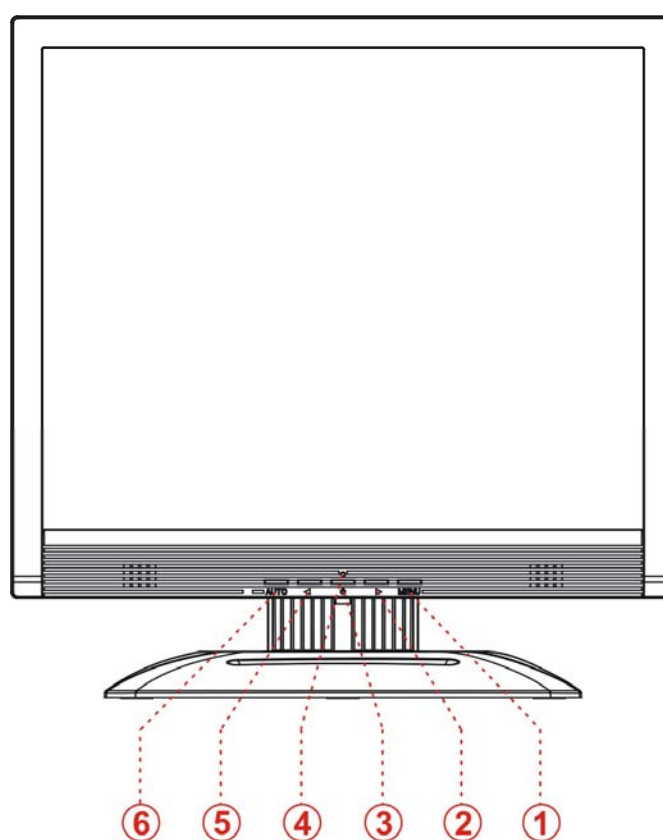

Figure.4. External Control Button
Press the power button to turn the monitor on or off. The other control buttons are located at front panel of the monitor (See Figure 4). By changing these settings, the picture can be adjusted to your personal preferences.
<p>The diagram shows the 'BRIGHTNESS CONTRAST' OSD menu. At the top, it has a title bar 'BRIGHTNESS CONTRAST' and a toolbar with icons for brightness, contrast, RGB, image, menu, and a red 'R' button, followed by an 'Exit' button. The main area contains two menu items: 'BRIGHTNESS' and 'CONTRAST', each with a right-pointing arrow. At the bottom, there are three buttons: '< > ADJUST', 'MENU:ENTER', and 'AUTO:EXIT'.</p>	<p>Brightness/Contrast adjustment:</p> <p>Brightness: Adjusts brightness by using the buttons < or > (② and ⑤ in fig. 4).</p> <p>Contrast: Adjusts screen contrast by using the buttons < or > (② and ⑤ in fig. 4).</p>
<p>The diagram shows the 'IMAGE CONTROL' OSD menu. At the top, it has a title bar 'IMAGE CONTROL' and a toolbar with icons for brightness, contrast, RGB, image, menu, and a red 'R' button, followed by an 'Exit' button. The main area contains five menu items: 'AUTO ADJUSTMENT', 'H. POSITION', 'V. POSITION', 'CLOCK', and 'PHASE', each with a right-pointing arrow. At the bottom, there are three buttons: '< > ADJUST', 'MENU:ENTER', and 'AUTO:EXIT'.</p>	<p>Image Control:</p> <p>Auto Adjustment: Automatically selects the optimal settings for image parameters (image position, phase, etc.) by using the button MENU (① in fig. 4).</p> <p>H. Position: Controls the picture's horizontal position.</p> <p>V. Position: Controls the picture's vertical position.</p> <p>Clock: Sets up the internal clock. Larger values make the displayed image appear wider; smaller values make it appear compressed.</p> <p>Phase: Adjusts the internal clock's time lag in order to optimize the screen image.</p>
<p>The diagram shows the 'COLOR' OSD menu. At the top, it has a title bar 'COLOR' and a toolbar with icons for brightness, contrast, RGB, image, menu, and a red 'R' button, followed by an 'Exit' button. The main area contains three menu items: '9300K', '6500K', and 'CUSTOM COLOR', each with a right-pointing arrow. At the bottom, there are three buttons: '< > ADJUST', 'MENU:ENTER', and 'AUTO:EXIT'.</p>	<p>Color:</p> <p>This menu lets you select a preset color temperature (9300K, 6500K) by pressing the OSD buttons < or > (② and ⑤ in fig. 4). Changes to the color temperature take immediate effect on screen. If you wish to set individual color values, select the Custom Color option. Then press the MENU button (① in fig. 4) to select the red, green and blue settings and set the desired value using the OSD buttons < or > (② and ⑤ in fig. 4). The current settings are automatically saved when you return to the previous level or exit the OSD menu.</p>